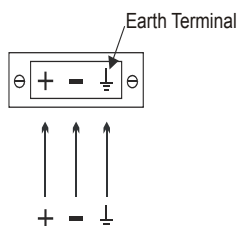

Figure 13-9 Separate Earth
- 2 For installations with a separate earth, connect the earth cable to the earth terminal (see Figure 13-9).